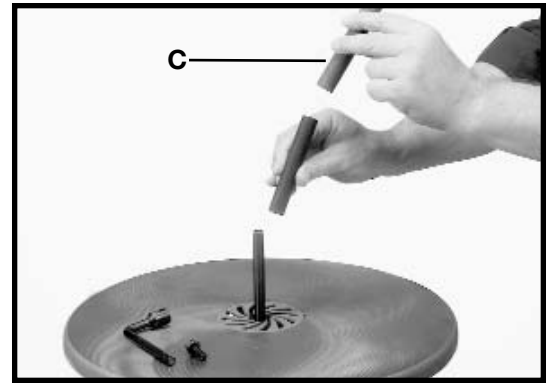

Fig. 21
4. Slide the used abrasive sleeve off the sanding drum. Slide the new abrasive sleeve on(C) Fig. 21.